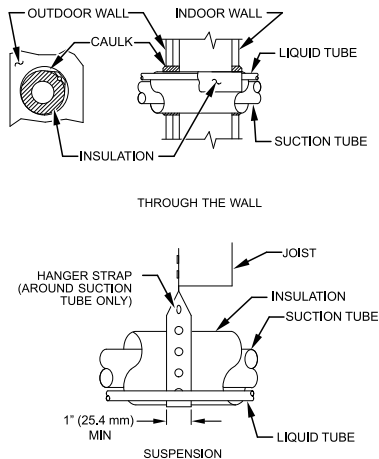

Fig. 1 – Piping Installation
6. When passing refrigerant tubes through the wall, seal opening with RTV or other pliable silicon-based caulk. (See Fig. 1.)
8. Do not suspend refrigerant tubing from joists and studs with a rigid wire or strap which comes in direct contact with tubing. (See Fig. 1.)
10. When necessary, use hanger straps which are 1 in. (25 mm) wide and conform to shape of tubing insulation. (See Fig. 1.)